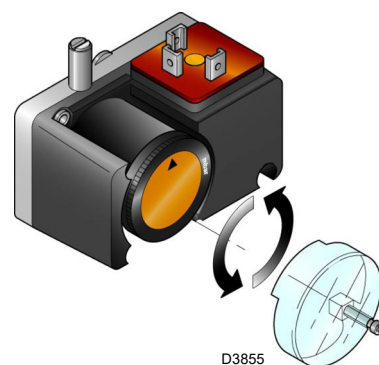

Fig. 33
- Adjust the minimum gas pressure switch (Fig. 33 at page 33) to the start of the scale.
Adjust the minimum gas pressure switch (Fig. 33) after having performed all other burner adjustments with the pressure switch set to the start of the scale.